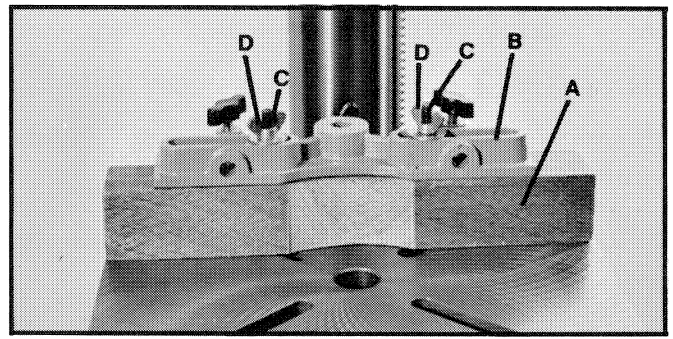

Fig. 11
1. Assemble the fence (A) and hold-down bracket (B) to the drill press table using the two screws (C), four flat washers and two wing nuts (D), as shown in Fig. 11.